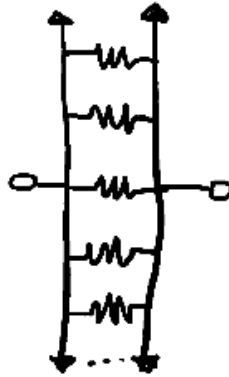

Figure 3: An infinite series of resistors
- if each resistor in Figure 3 is the same value, what is the equivalent resistance between the two terminals? (BTW, I still haven't solved <http://xkcd.com/356>, but don't get nerd sniped while doing this lab!)